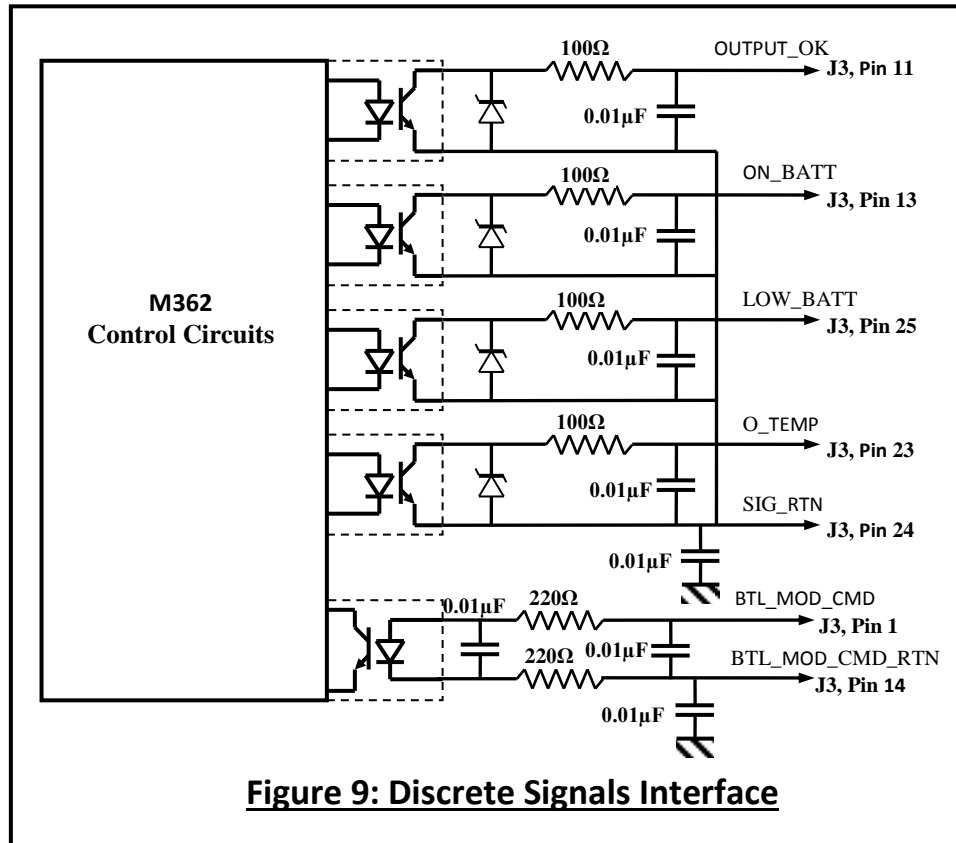

Figure 9: Discrete Signals Interface
The M362 provides (on its J3 Discrete Signals connector) four (4) discrete (two-state) Output signals that indicate the operational status of the M362, and one (1) discrete Input signal that when asserted, drives the M362 into “Battle Mode”. The electrical interface is shown on Figure 9 below. The signals are active and valid only when the M362 is operating and not in a By-pass Mode.